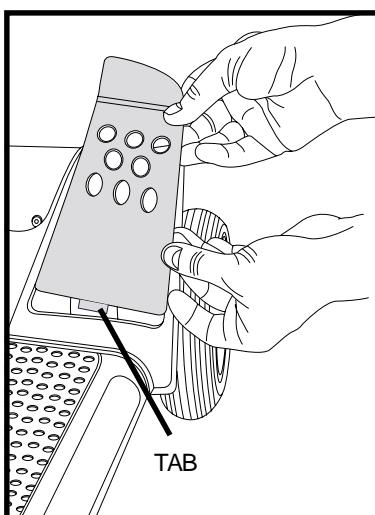

Figure 10. Front Fender Panel
2. Push through the hole to separate the piece from the Travel Scooter. See figures 10, 11 and 12.
**NOTE:** *When installing the front fender panel, make sure the tab at the bottom of the panel is inserted into the tab opening before securing the panel. See figure 10.*